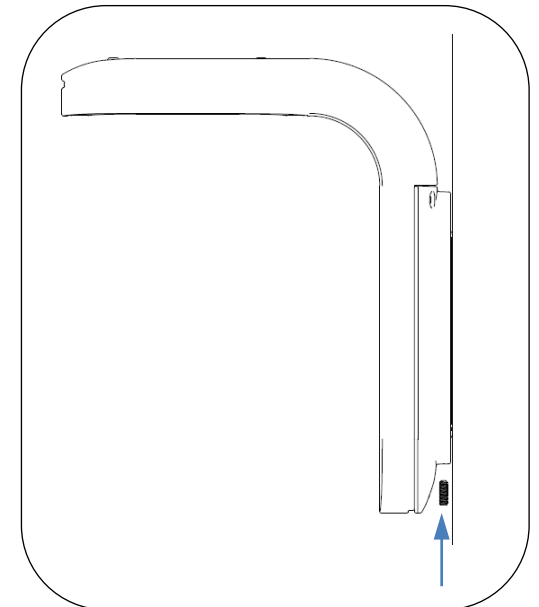

Fig. 5 - Install set screw
11. Install set screw to secure luminaire to wall mount plate as shown in Fig. 5.